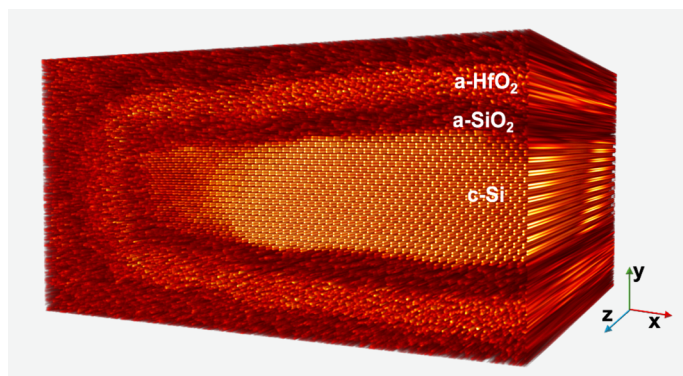

Figure 1: Buried defects and rough interfaces in a transistor structure identified in 3D using multi slice electron ptychography.¹
- **Resolution enhancement:** Ptychography methods enhance image resolution, capturing fine details for more accurate and comprehensive analyses, which is essential for advanced research. An example of MEP is shown in Figure 1.